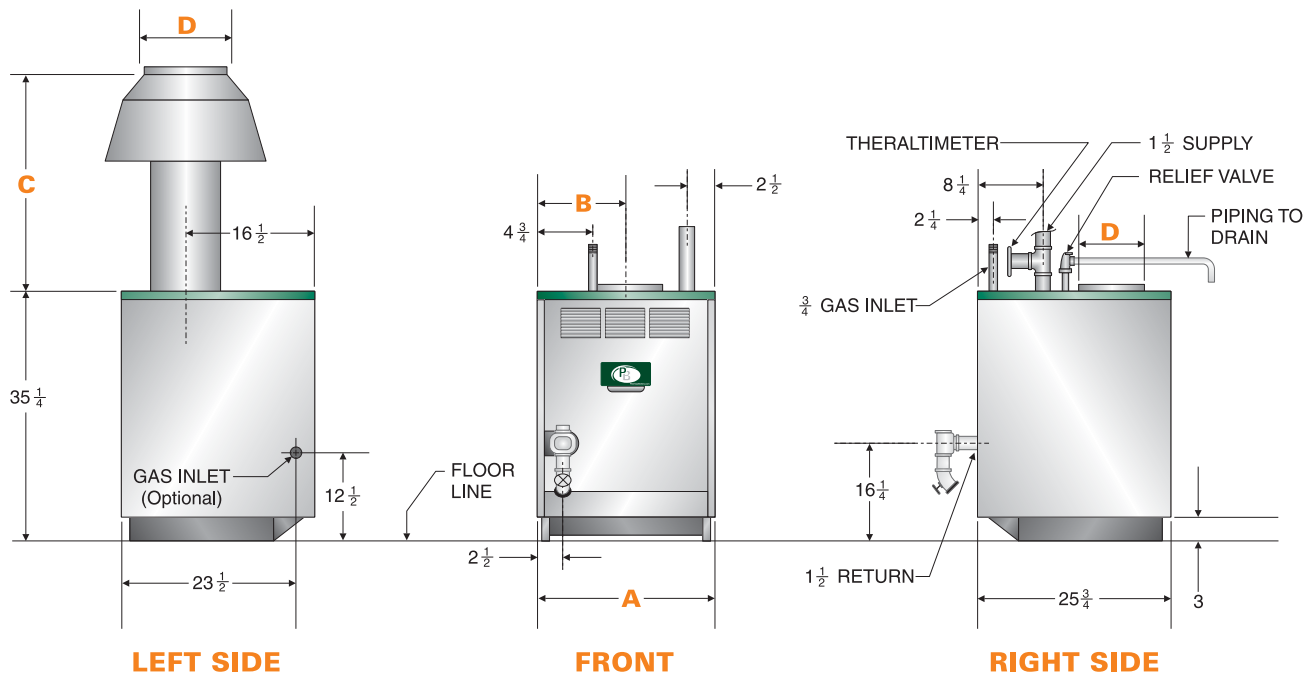

Figure 2.4: Peerless® Partner® Indirect-Fired Water Heaters
1. Use FLEX-HEAT® modular boilers with the Peerless® Partner® indirect-fired water heaters for high recovery and energy-efficient service water heating (Figure 2.4 and 2.6).